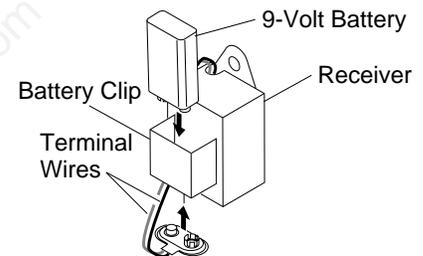

Figure 37 - Installing Battery in Receiver
5. Locate the battery clip mounted on the back of the receiver (see Figure 37).
7. Attach the terminal wires to the battery (see Figure 37).